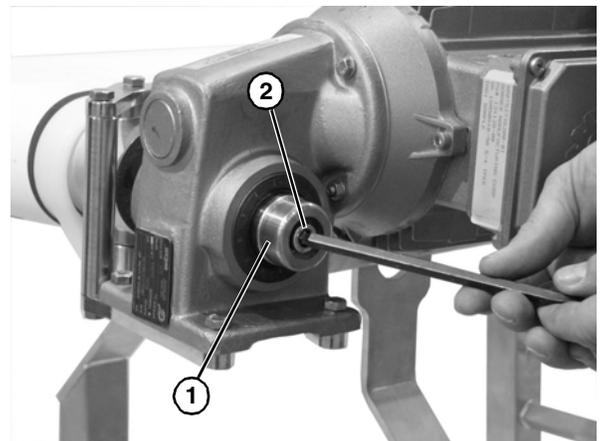

Figure 17
8. Remove the drainage plugs (**Figure 17, item 1**) on the bottom side of the motor.
5. Attach the bore plug (Figure 17, item 1) and tighten the socket head screw (Figure 17, item 2). Snap cover onto bore plug (Figure 17, item 1).